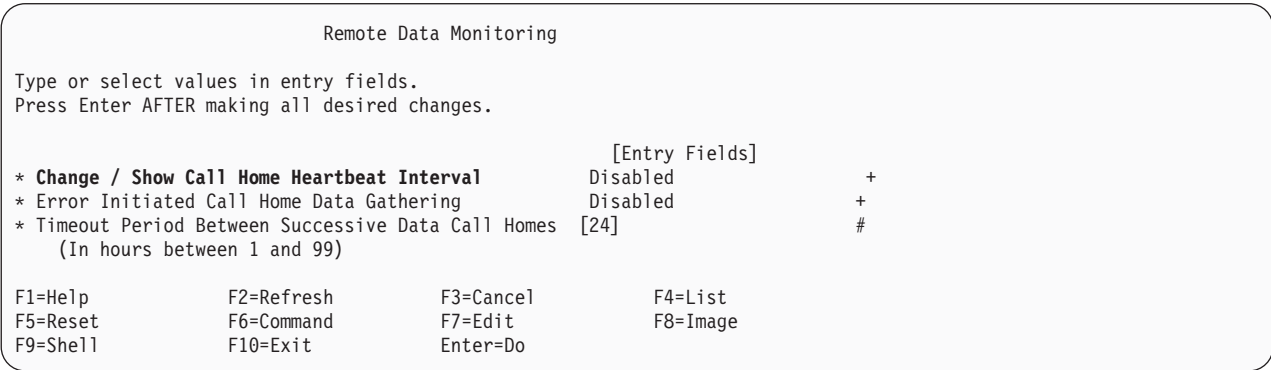

Figure 2-115. Remote Data Monitoring Menu – Change / Show Call Home Heartbeat Interval
- At Figure 2-114 on page 2-83, select **Remote Data Monitoring**, and press **Enter**. Figure 2-115 on page 2-83 displays.
4. At Figure 2-115, select **Change / Show Call Home Heartbeat Interval**, and press **Enter**.
Attention: Select the illustrated line item only at **Figure 2-115**. No other menu display items are applicable for this process.